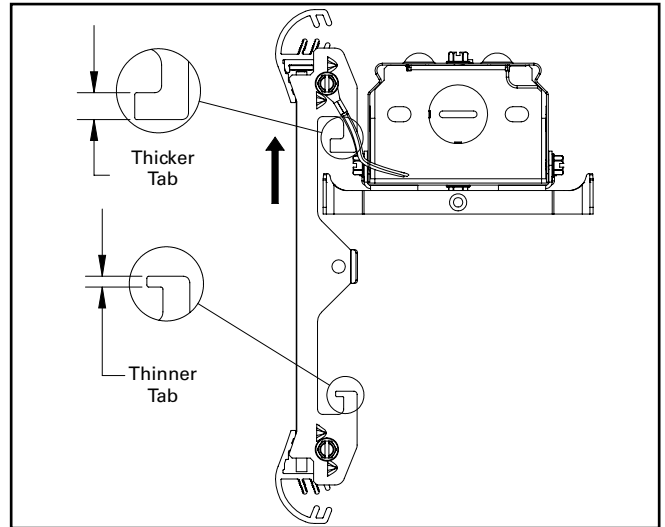

Figure 5.1.
- Keep waveguide assembly vertical, make sure the thicker tab end is above the driver hinge bracket (Figure 5.1).